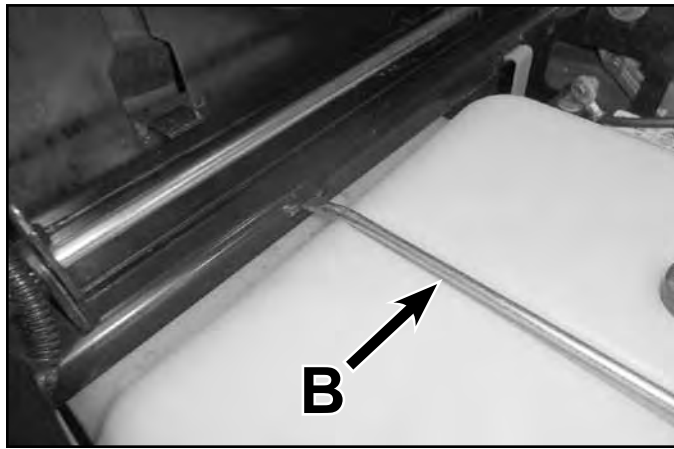

Fig. 037
2. Install the (2) bolts and nuts that secure the seat support (E) to the frame brackets and torque to specification – 17 ft-lbs. (23 Nm).
3. Install the fuel tank retaining rod (B) and torque retaining bolt to specification – 8 ft-lbs. (11 Nm). Be sure the front rod end is engaged into the control box assembly (Fig. 037).